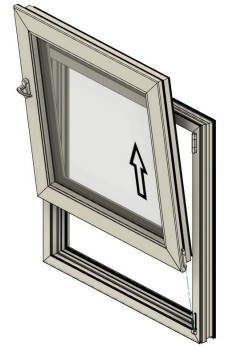

Figure 19
4. Slightly tilt the sash out of the frame and lift it off the lower hinge pin (Figure 19).